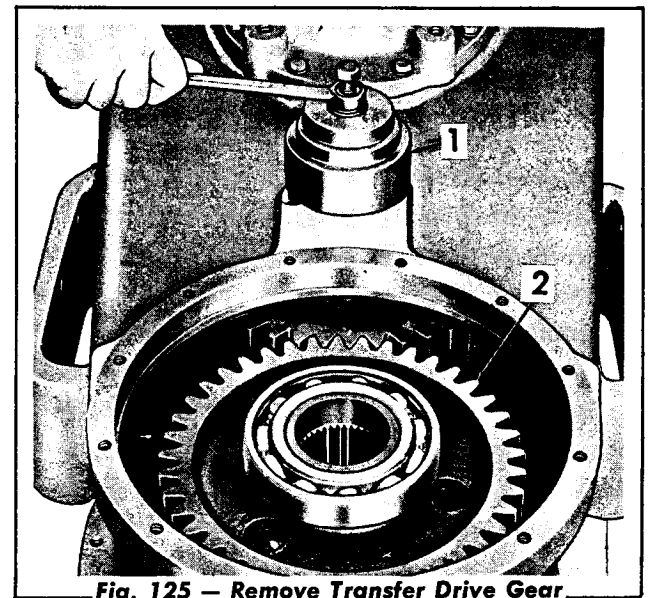

Fig. 125 — Remove Transfer Drive Gear
8. Using special tool (Fig. 125), remove the transfer idler gear spindle from the housing. Remove the transfer drive gear and the bearing assembly.